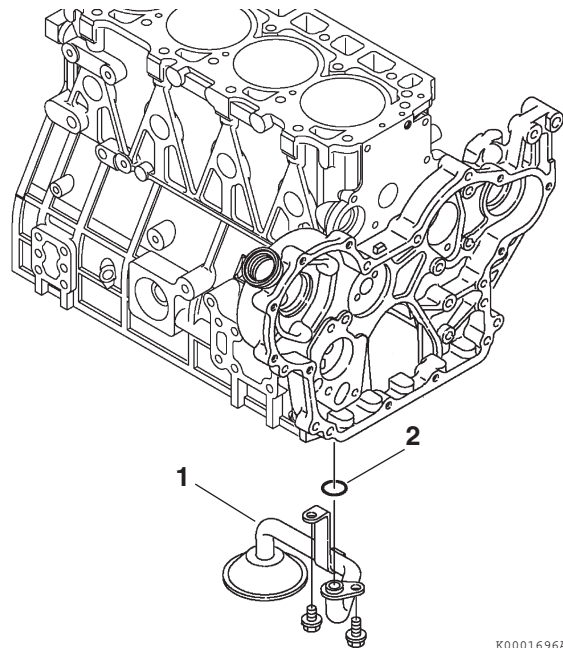

Figure 6-103
1. Reinstall the oil pickup tube (**Figure 6-103, (1)**) using a new O-ring (**Figure 6-103, (2)**).